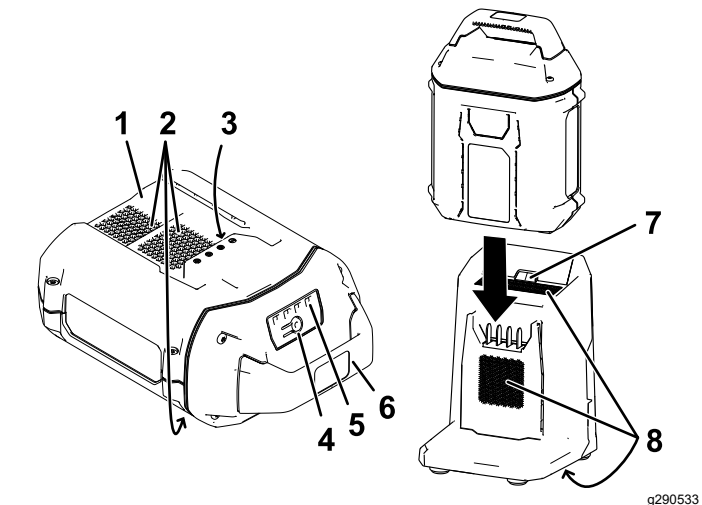

Figure 26
2. Line up the cavity in the battery pack (Figure 26) with the tongue on the charger.
3. Slide the battery pack into the charger until it is fully seated (Figure 26).